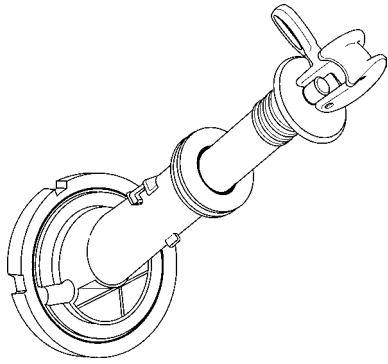

Figure 10. Draw fuseholder out 8 to 10 inches.
4. Turn fuseholder 90° in the Bay-O-Net housing to break seal between seal gasket and Bay-O-Net housing (see Figure 10).
1. Draw fuseholder out quickly 8 to 10 inches to interrupt load (see Figure 10).